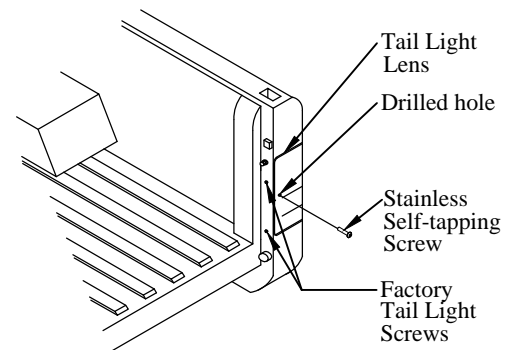

Figure 6: Tail light modification detail.
1. **Remove** the two (2) factory tail light screws from each tail light lens (Figure 6). The screws will not be reused after the modification.
2. Carefully **Drill** a 9/64" hole through each tail light lens and internal sheet metal (Figure 6).
3. Carefully **Drill** a 3/16" hole through each tail light lens only, for screw clearance (Figure 6).